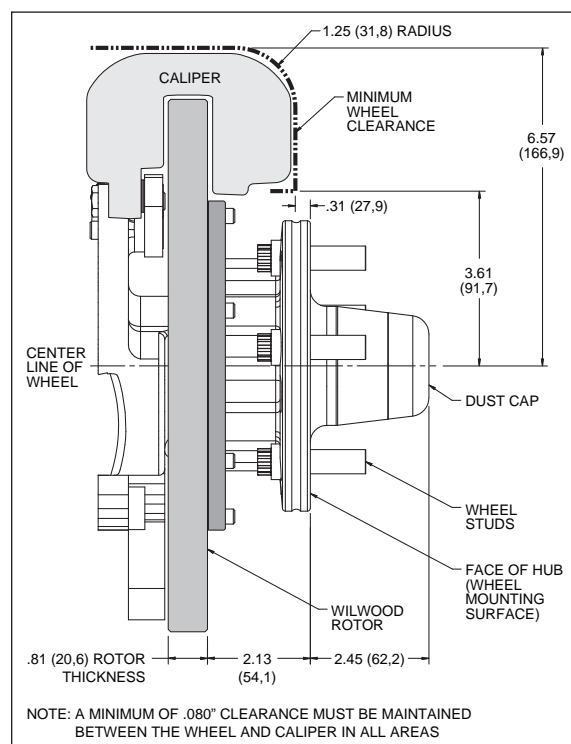

Figure 3. Wheel Clearance Diagram
- Verify wheel clearance utilizing Figure 3.
- **WARNING:** *The wheel contact surfaces must seat completely on the face of the hub.* If any contact surfaces overhang the outside diameter of the hub face, a 6.60" diameter x .20" thick steel spacer (item 21, Wilwood P/N 300-11961) **MUST** be used between the wheel and the hub.